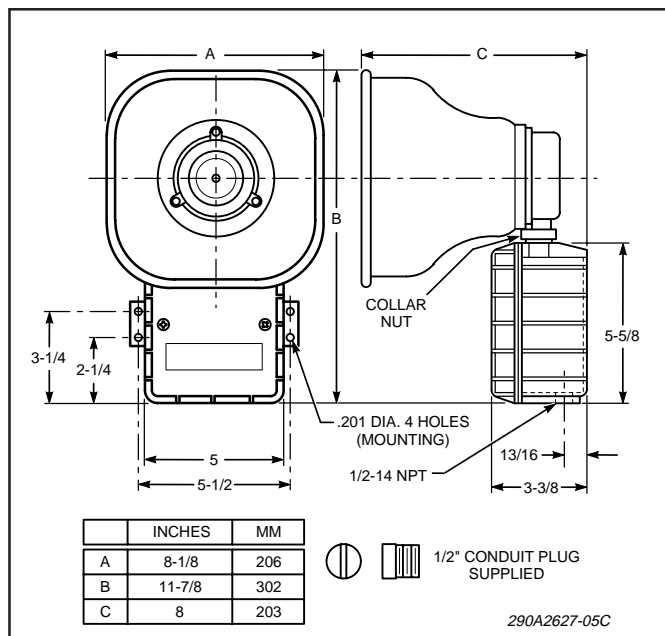

Figure 1. Speaker Dimensions.
#### B. Mounting Arrangements (see figure 1).
c. Using the mounting holes (four (4) in external mounting bracket) as a template, scribe drill position marks on the mounting surface. See figure 1 for mounting hole locations and dimensions.
f. Reposition speaker projector if necessary to obtain desired sound coverage. Loosen collar nut (see figure 1) and move projector to desired position.